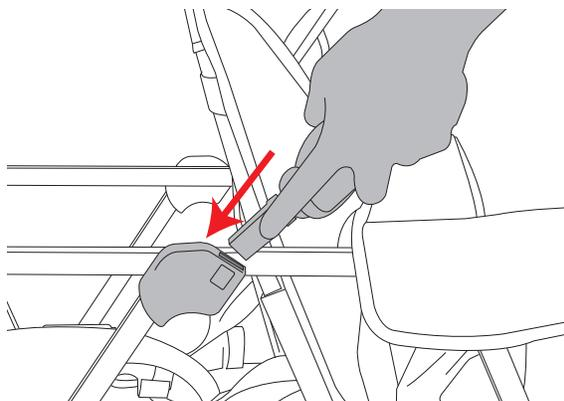

Figure 6
- Line up the male fittings on the canopy with the female fittings near the center of the stroller and push downward until the fittings snap into place. See Figure 6. Pull upward on the canopy sides to be sure both are snapped securely in place.